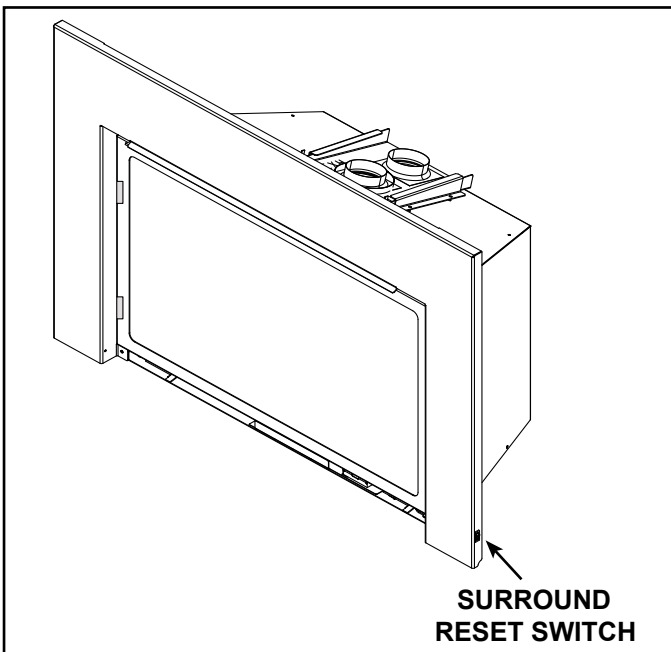

Figure 3.11 Surround Reset Switch
- Toggle the appliance reset switch to the off position. See Figure 3.11 for reset switch location.